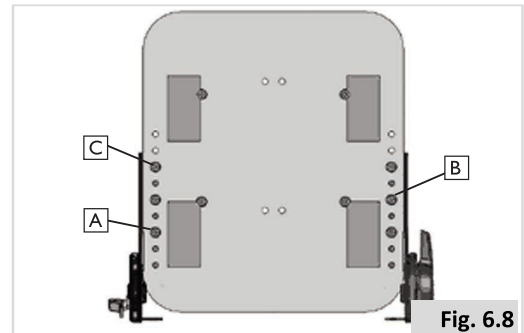

Fig. 6.8
1. Seat depth adjustments with 1" increments, Figure 6.8 and 6.9
- Using a 5mm Hex Key, remove the M8 Flat head screws (A), (3 on each side).
- Using a 5mm Hex Key, remove the M8 Flat head screws (B), (1 on each side).
- Using a 5mm Hex Key, loosen the M8 Flat head screws (C), (1 on each side).